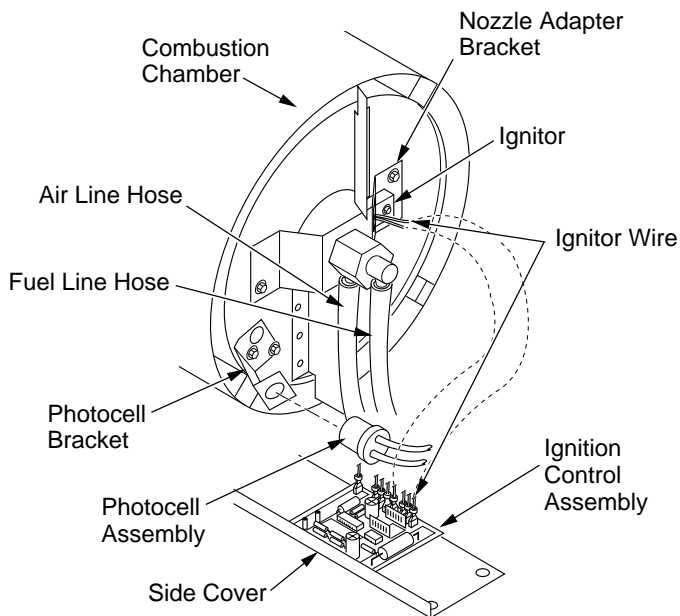

Figure 19 - Disconnecting Ignitor Wires from Ignition Control Assembly (40/55/60/70/110/115/150/155/165 Models Shown)
4. Disconnect ignitor wires from ignition control assembly (see Figure 19). Pull the ignitor wires up through the hole in the lower shell.
5. Disconnect fuel line hose and air line hose. Remove photocell from photocell bracket (see Figure 19).
11. Route the ignitor wires back down through the hole in the lower shell. Connect wires to the ignition control assembly (see Figure 19).